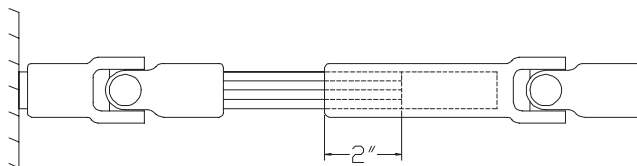

Figure 1
4. Align and insert the traction unit PTO splined shaft into the broom PTO receiver (Fig. 1).
Ensure 2 inches of PTO shaft engages with implement shaft (Fig. 1). If not, the implement shaft must be replaced with the appropriate length of shaft available from the Toro Parts Department.